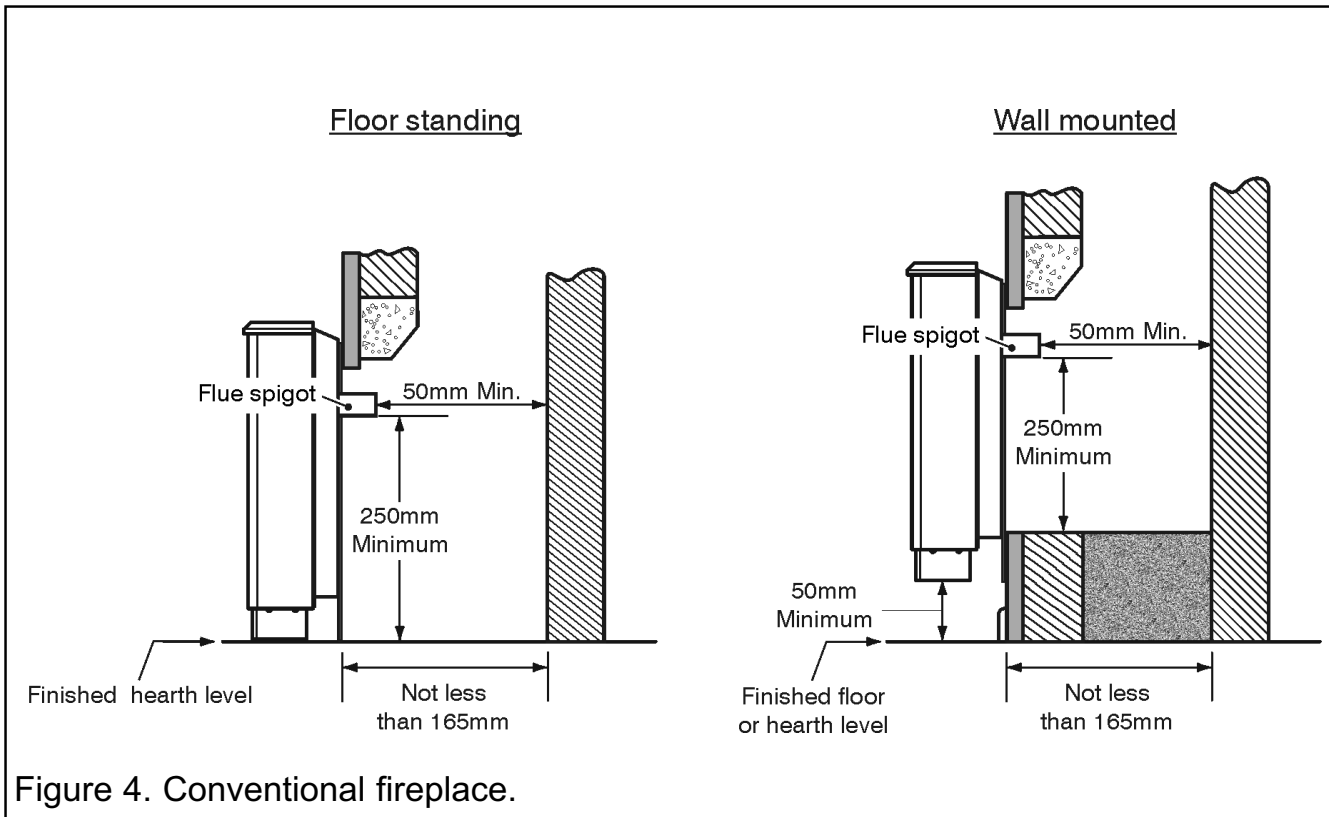

Figure 4. Conventional fireplace.
5.8.1 The flue spigot and any spigot extension must be capable of passing through the closure plate by at least 38mm with a minimum clearance of 50mm from its open end and the nearest vertical surface (See figure 4).
The appliance must be mounted on a non-combustible hearth **except when the appliance is elevated 50mm above the finished floor as in figure 4** (N.B. conglomerate marble hearths are considered as non-combustible). The hearth must be at least 680mm wide x 300mm deep. The hearth material must be at least 12mm thick. The periphery of the hearth (or fender) should be at least 50mm above floor level to discourage the placing of carpets or rugs over it.
A conventional fireplace catchment space must be as shown in figure 4.
** Please note that the minimum opening size of 491mm is applicable for hearth mounted installations. When wall mounting the minimum opening size will be 280mm (30mm spigot height plus the 250mm depth required below the spigot - see figure 4).